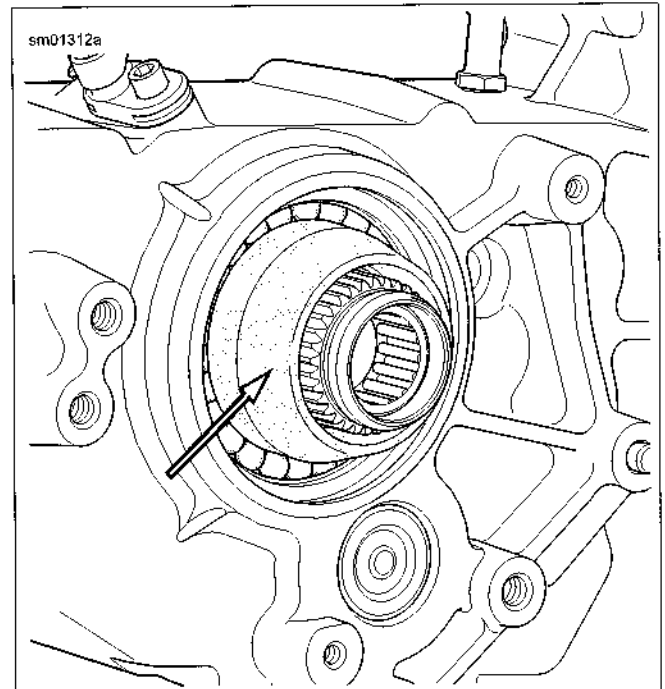

Figure 5-54. Install Pilot
2. See Figure 5-54. From outside of crankcase, install PILOT (Part No. HD-47856-2) over end of main drive gear bearing inner race.